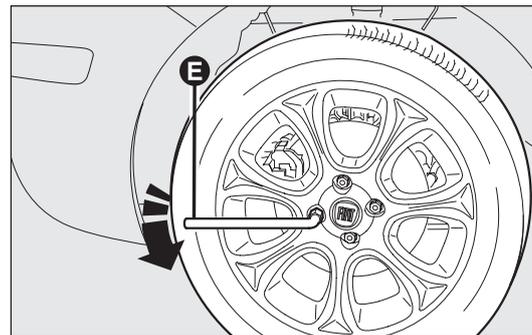

fig. 146
- loosen the bolts of the wheel to be replaced by about one turn with the wrench provided E-fig. 146; if you have alloy wheels, rock the car to make it easier to separate the rim from the wheel hub;